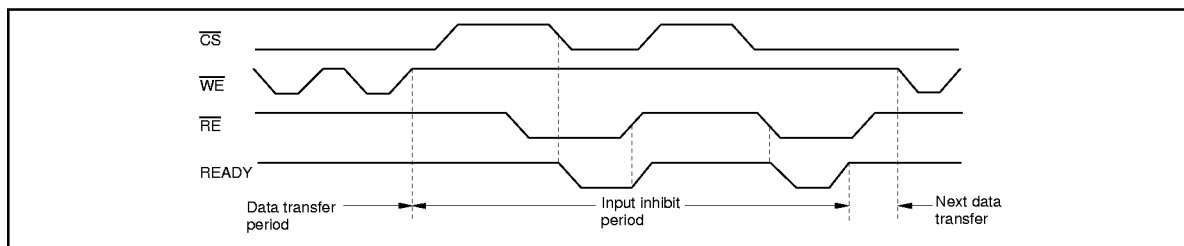

Figure 17 READY Output Timing (When It Is Made Available by $\overline{CS}$ and $\overline{RE}$)
- READY is mode available by $\overline{CS}$ and $\overline{RE}$ (Figure 17).